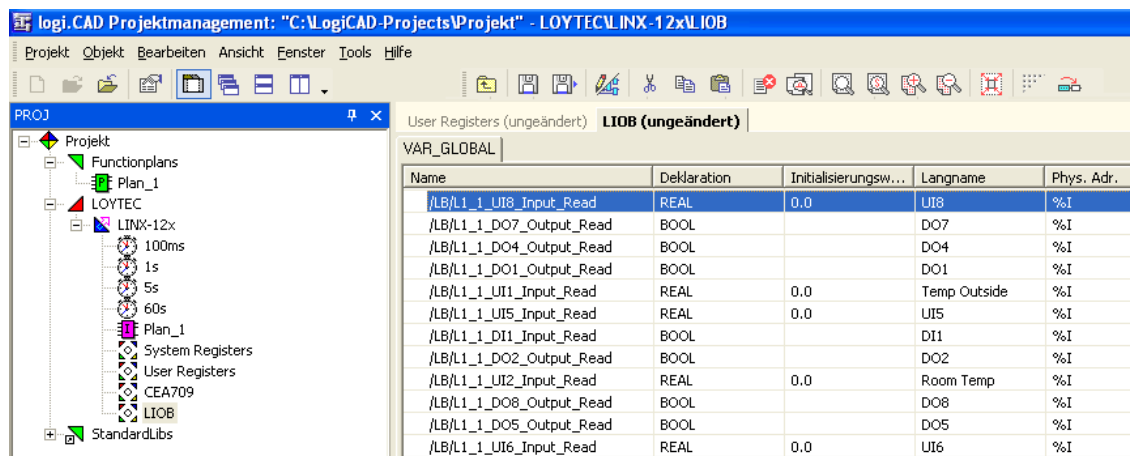

Figure 51: Exposed PLC data points appear in LogiCAD
10. The data points now appear as variables in LogiCAD in a folder under the device folder. The folder is named specific to the technology of the data points, e.g. LIOB for all L-IOB I/Os that are exposed as a PLC variable. An example is shown in Figure 51.